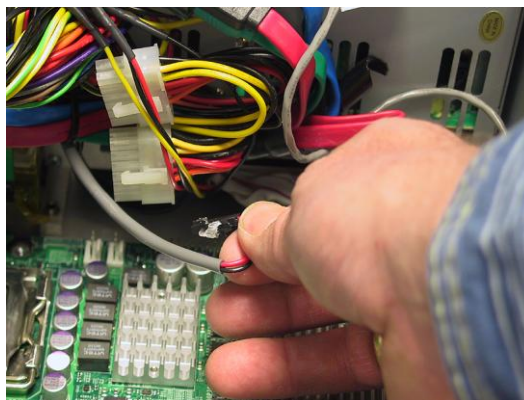

Figure 5-102
- 8) The soft power cable must be removed from the motherboard connection posts (the location of this connector is pointed out in Figure 5-102). Observe that this cable connector is attached to the motherboard with a flexible adhesive (such as Marine Goop). Simply pull the connector (not the wire) until the adhesive gives.